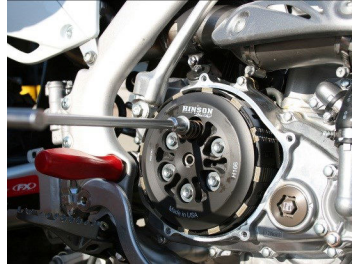

Figure 12
- Re-install pressure plate, clutch springs and bolts, leaving the cover off. (pressure plate should make solid connection with the last clutch plate) (see figure 12)